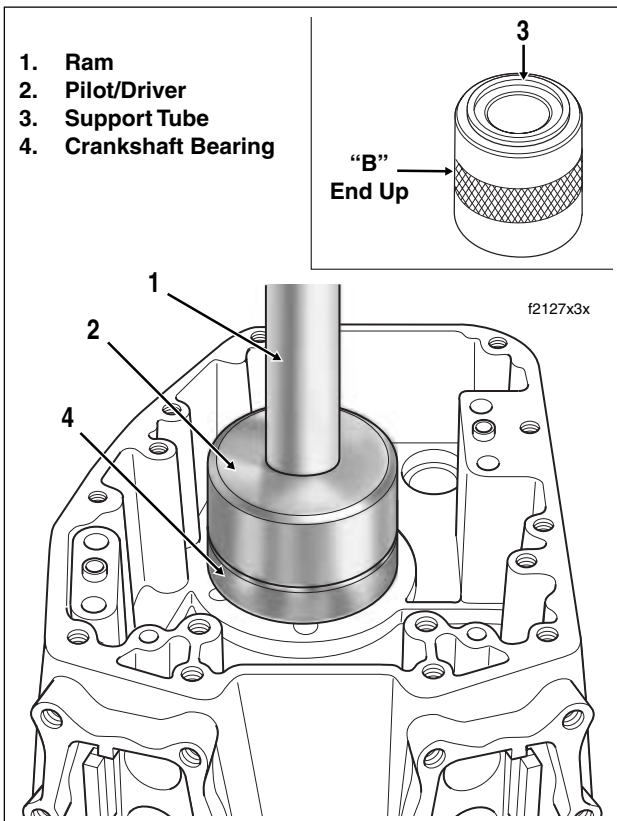

Figure 3-127. Install Crankshaft Bearing
7. Center pilot/driver under ram of press. Apply pressure to pilot/driver until resistance is felt and bearing bottoms in support tube. See Figure 3-127.